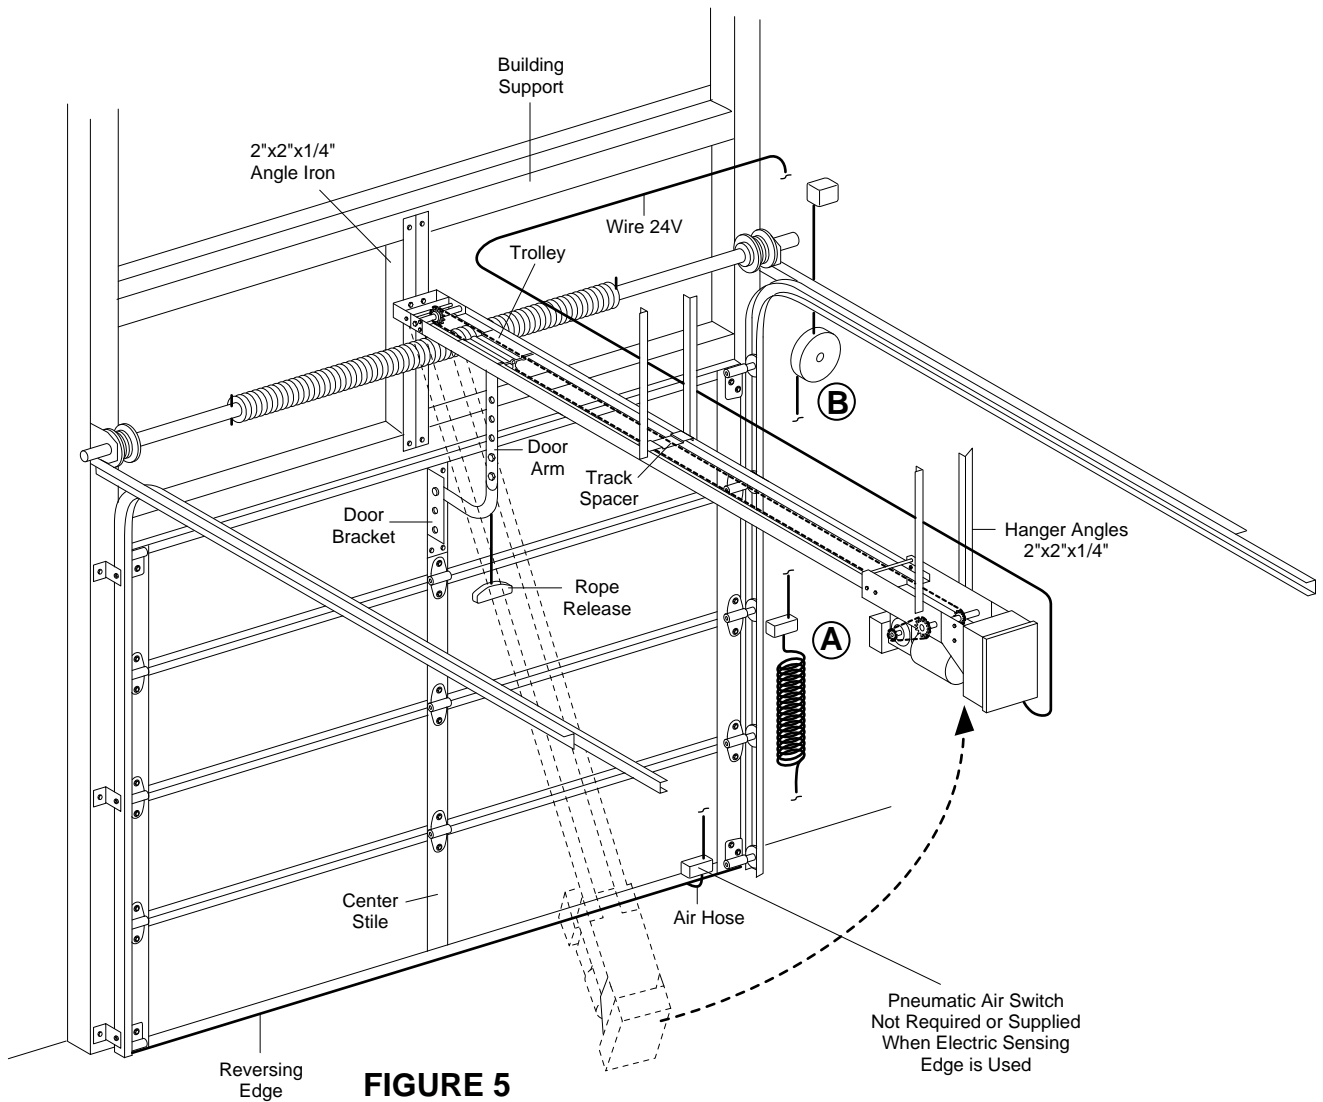

FIGURE 5
9. Raise operator straight up until the door can be raised to the full open position. See Figure 5. Temporarily secure to ceiling or rafters with rope or other suitable means.